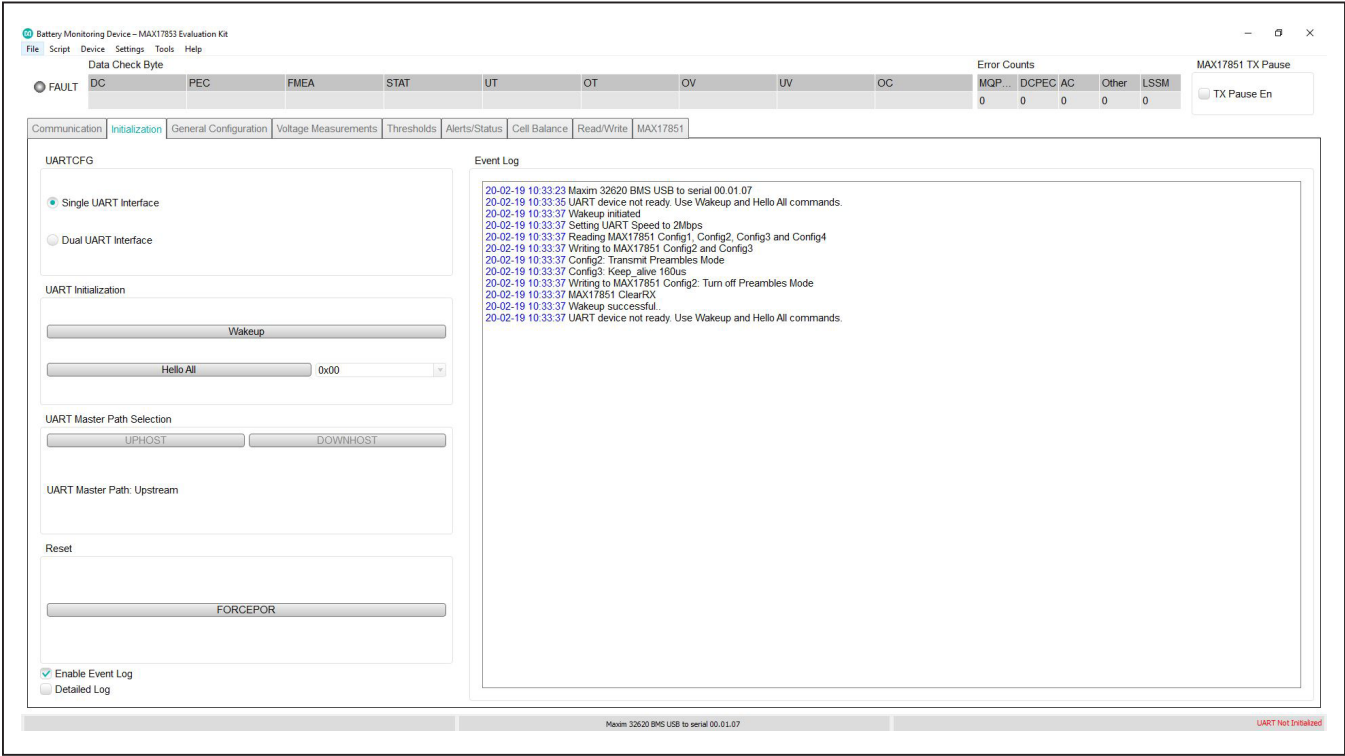

Figure 25. Initialization tab
- 1) Set up hardware and run GUI according to the Quick Start \(Single UART\) section. **Wakeup Successful** must be displayed in the **Event Log** on the **Initialization** tab (Figure 25).
- 7) Select the **Initialization** tab (Figure 25).
The Initialization tab (see Figure 25) is used to initialize the system and assign addresses to each device in the daisy-chain. The correct Single UART Interface or Dual UART Interface radio button must be selected for the hardwired system. Communication will only be established when the wired system aligns with the interface chosen from the UARTCFG group box. With the Dual UART Interface radio button selected, the user has the option of selecting